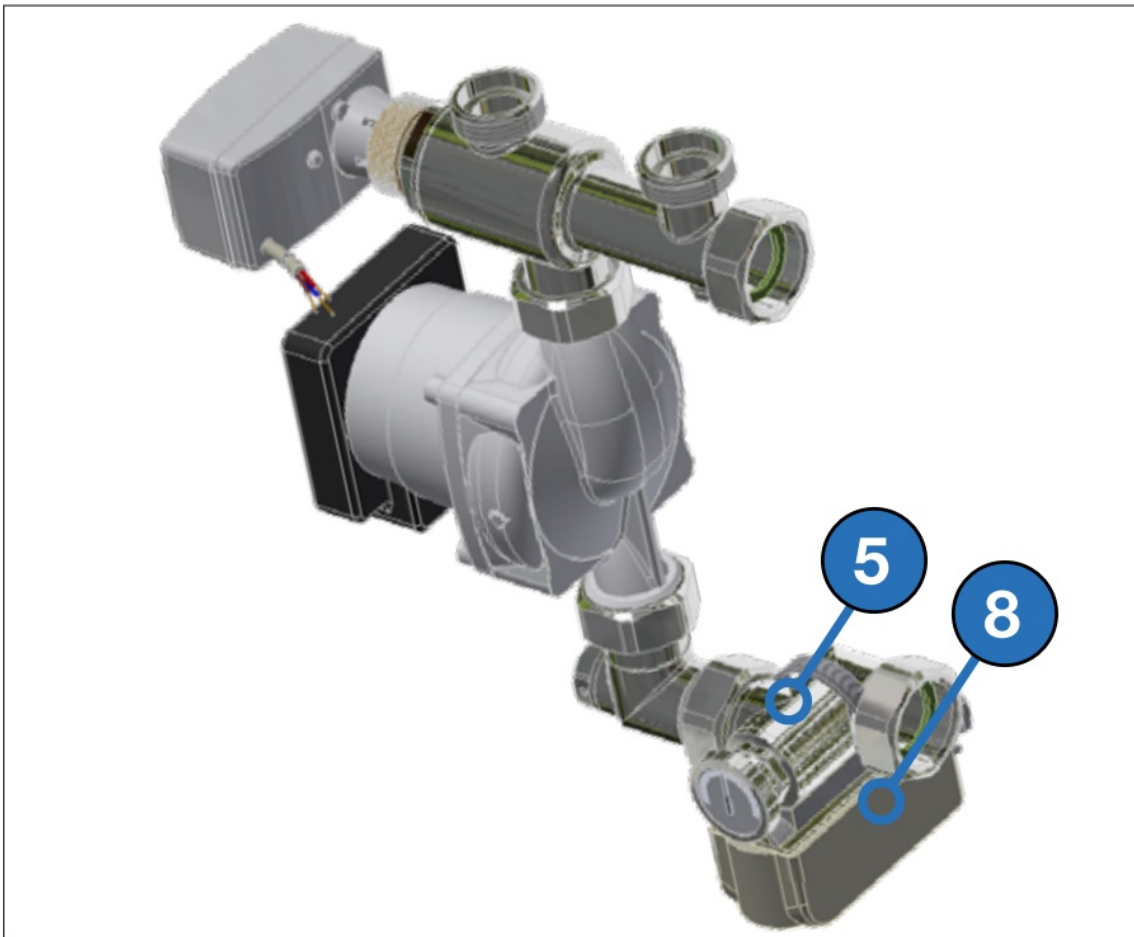

Fig. 8-2
2. Rotate eccentric (5, Fig. 8-2)
3. Position the temperature limiter (8, Fig. 8-2)